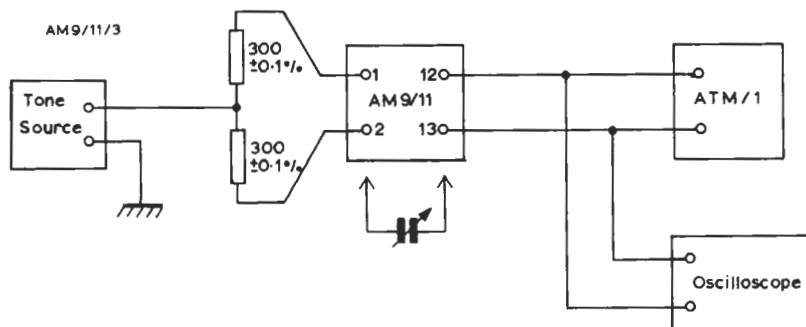

Fig. 3. AM9/11 Test Circuit 2
1. Set up the test circuit given in Fig. 3. Connect the variable capacitor between the pins with blue and green leads of T101. Set the gain switch to maximum output. Apply 10-kHz tone at -30 dB between the centre point of the 600-ohm balanced load and earth.